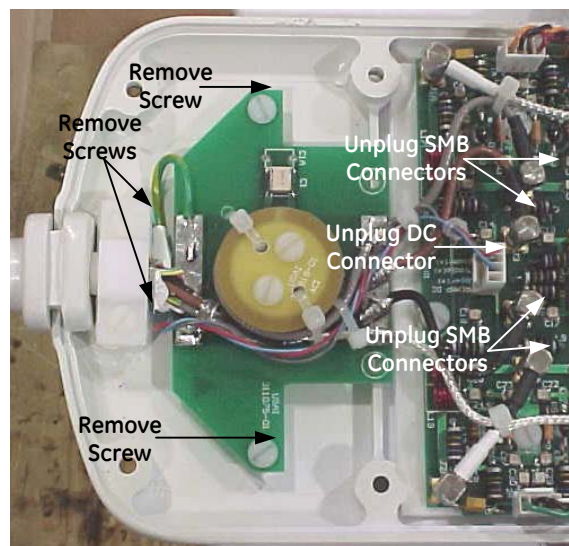

Figure 14: Unfastening the system cable from the posterior coil.
Step 5 -- Fix a new cable assembly on the Body Array and reattach the cable lock with two screws. Connect all four SMB plugs and the DC Plug to the corresponding receptacles on the interface board (see *Figure 14 & 15*).